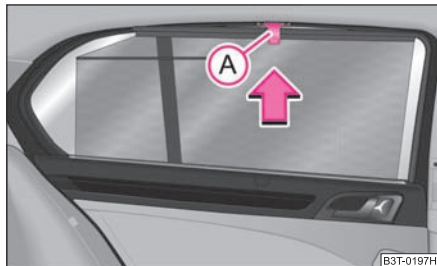

Fig. 57 Rear door: Sun screen
- Pull the sun screen at the handle (A) ⇒ fig. 57 and hang it in the bracket on the top edge of the door.